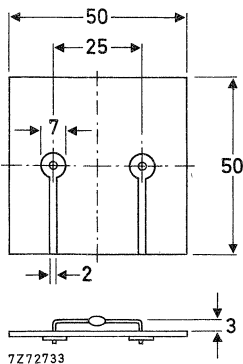

Fig. 2 Mounted on a printed-circuit board.
2. Thermal resistance from junction to ambient when mounted on a 1.5 mm thick epoxyglass printed-circuit board; Cu-thickness  $\geq 40\text{ }\mu\text{m}$ ; Fig. 2 (see "Thermal Model")